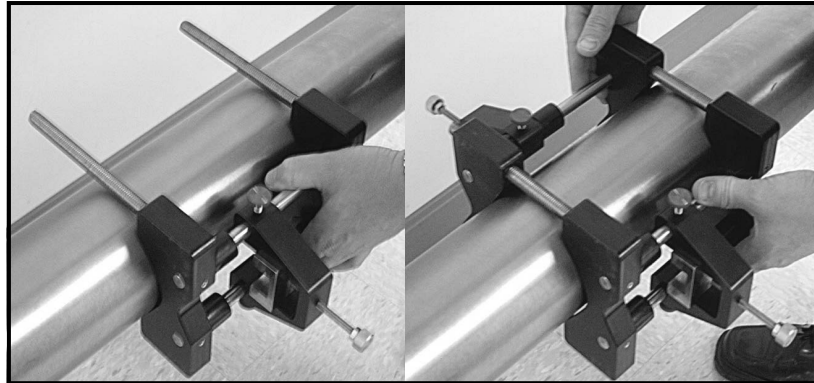

Figure 22: Mounting the Two Halves of the Fixture
1. Position the half of the clamping fixture with the threaded rods around the pipe, as shown in *Figure 22* below. Orient the fixture in the 3 o'clock position on a horizontal pipe.
2. Position the mating half of the fixture over the threaded rods in the 9 o'clock position. *Figure 22* below shows the two mounted halves.